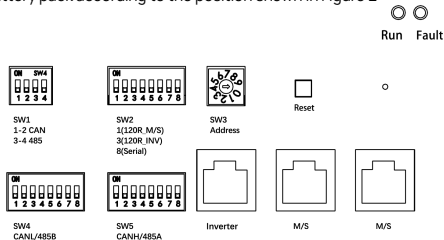

Figure 2
(2) Set the battery pack according to the position shown in Figure 2